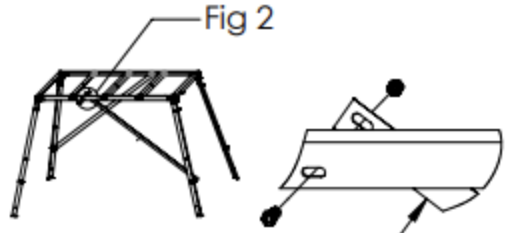

Fig 2
3. Attach 71" brace to the base on the long side using 1 - 3/8" x 1" bolt & 1 - 3/8" nylon lock nut. Repeat on the opposite side of base. Do not tighten these at this time. (Fig 2)